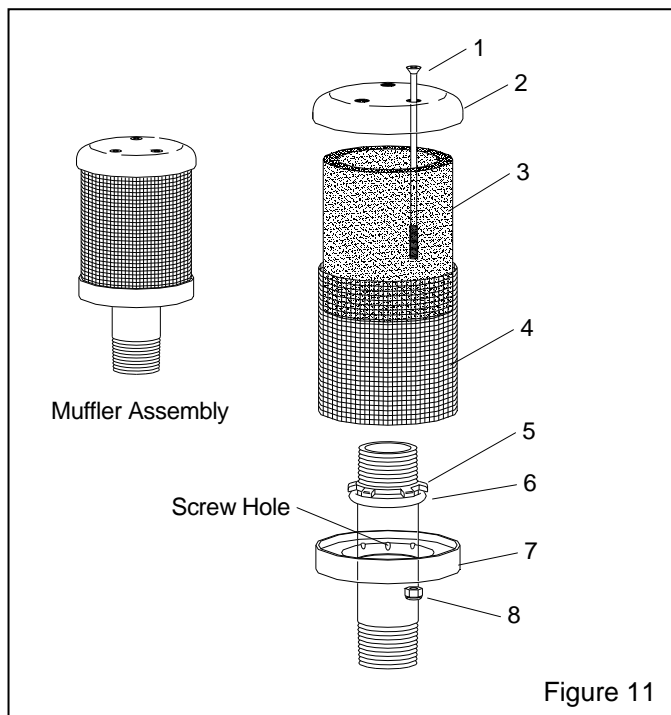

Figure 11
**9.4 Muffler Assembly, Figure 11**